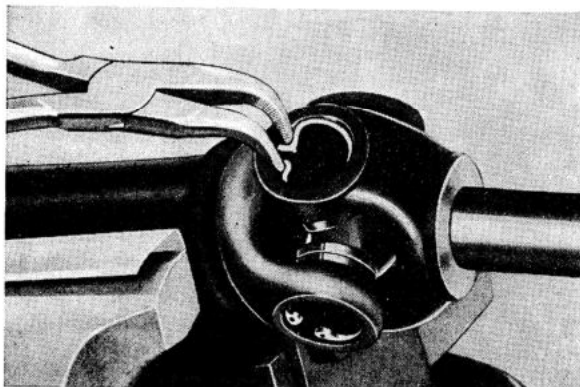

Fig. 4-127. Removing the snap ring
1. Remove the snap rings securing the needle bearings in the yokes, see Fig. 4-127.